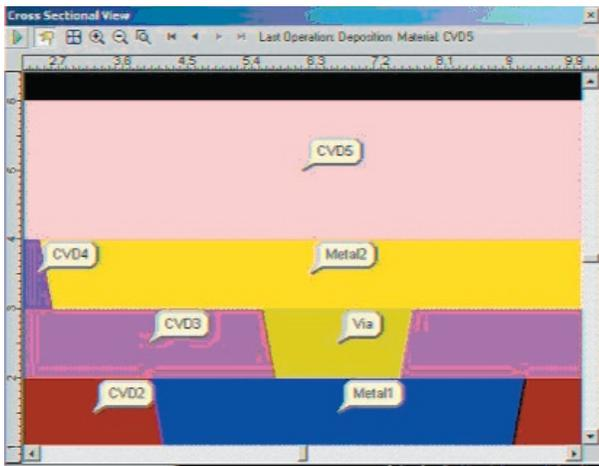

Figure 6. Cross-sectional view window.
- The **Cross-Sectional View** window is the output window (see Figure 6) where cross-sections are displayed with all of the visualization commands of the Cross-Sectional Viewer.
When generating a cross-section, it appears in the **Cross-sectional view** window (see Figure 6).
- **Material labels** button: This feature displays the names of materials wherever you inspect the cross-section. (see Figure 6)